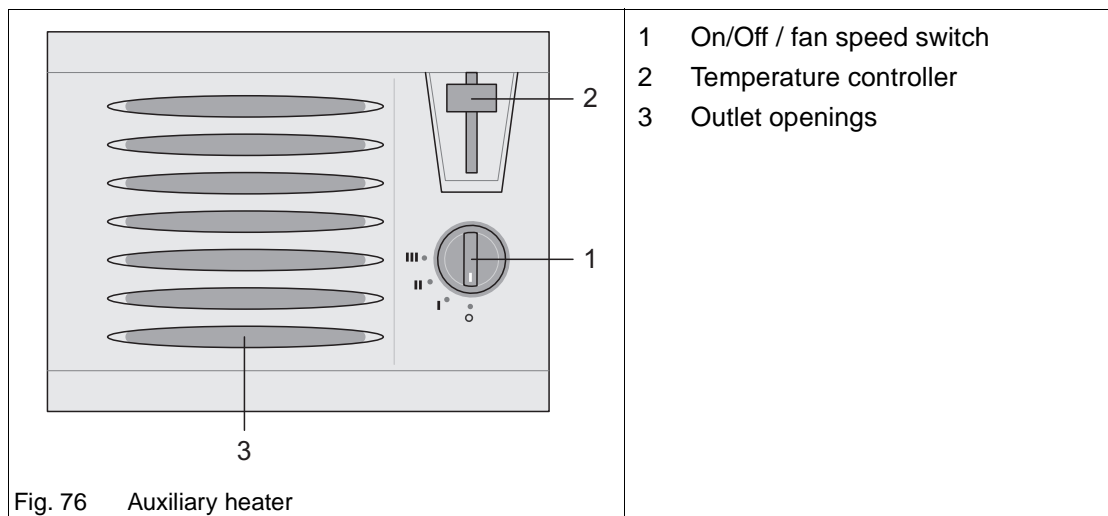

Fig. 76 Auxiliary heater
- ▲ Clogged or obstructed outlet openings (Fig. 76/3) can cause overheating of the heater.
- Set the switch (Fig. 76/1) to positions "I -III" to switch on the heater.
- Slide the temperature controller (Fig. 76/2) to set an agreeable temperature.
- To switch the heater off, set the switch (Fig. 76/1) to the "0 position" again.